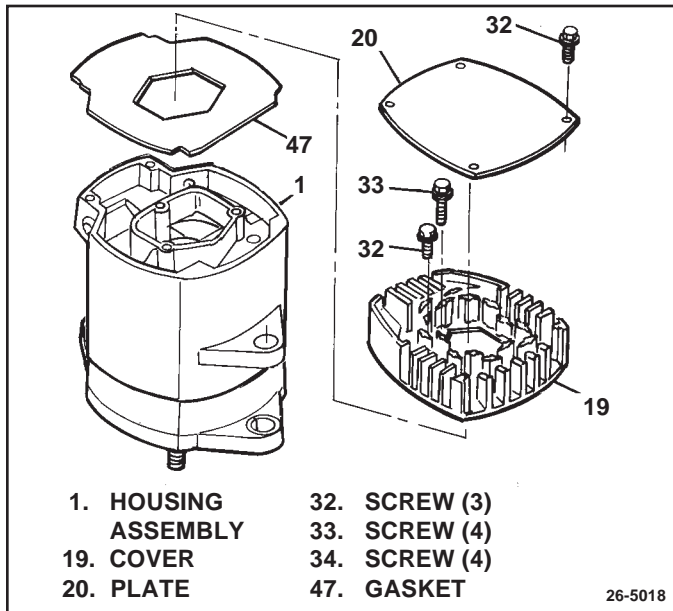

Figure 45. Installing Gasket, Cover, and End Plate
center hole. Replace gasket with a new one if at all questionable. Wipe edges of rectifier end housing and end cover gasket clean of foreign material. Place gasket and cover (19) onto housing (1) and install 7 rectifier cover attachment screw/washer assemblies (32 & 33). (See Fig. 45)
29. Install rectifier end plate (20) with 4 rectifier cover plate attachment screws (34). (See Fig. 45)